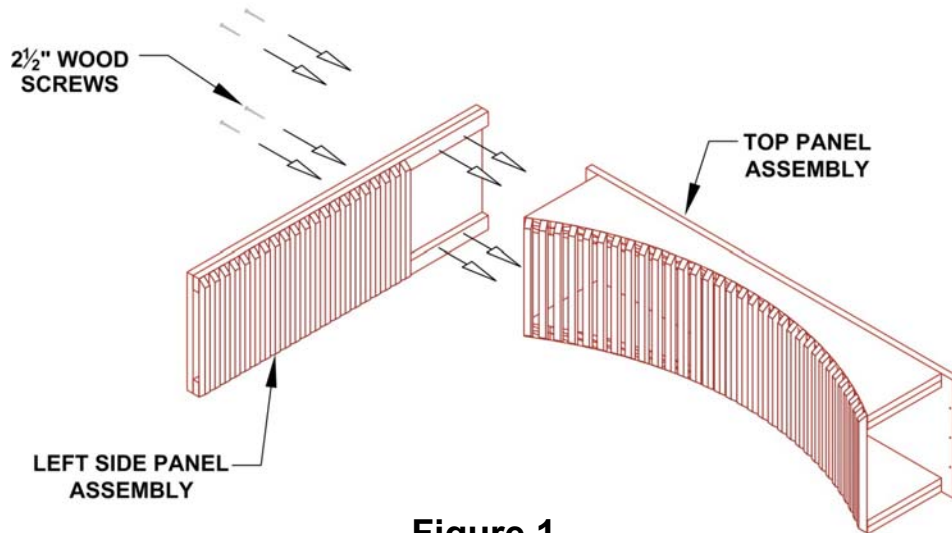

Figure 1
3. Using your 9/64" drill bit pre-drill your pilot holes into the side of your archtop. Use the 2 1/2" wood screws provided to secure the side panel to the top (**Figure 1**).